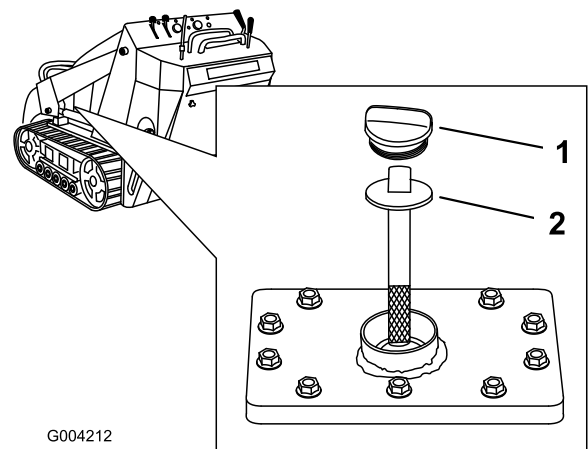

Figure 52
5. Remove the hydraulic tank cap and dipstick (Figure 52).